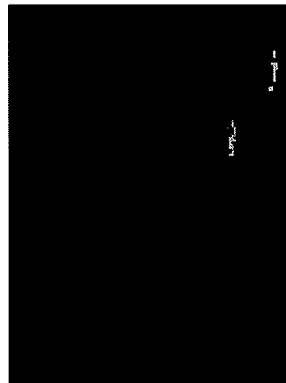

Figure 12
1. To lower the squeegee and start the vac motor move the squeegee lever to the right and down. See figure 12.